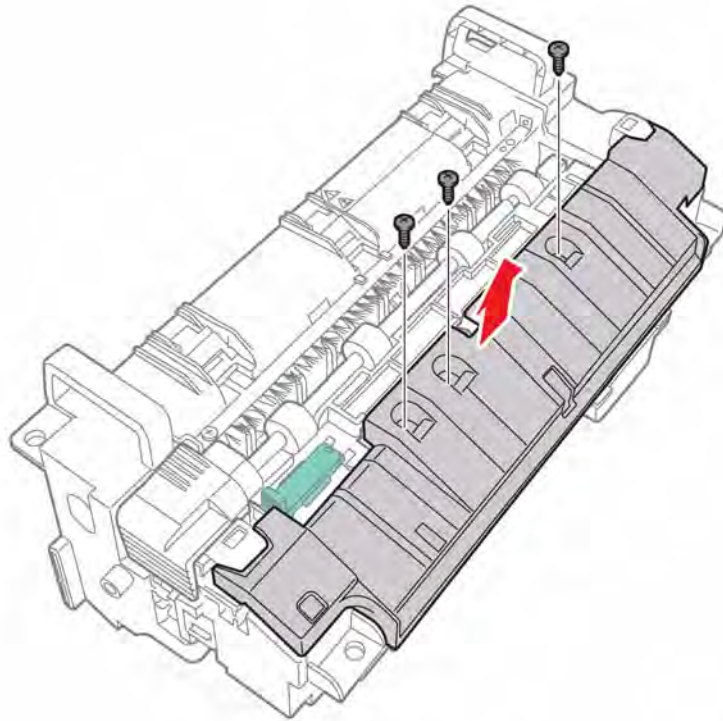

Figure 2 Remove the duplex cover
- Remove 3 screws (Black, plastic) that secure the duplex cover to the Fuser, Figure 2.